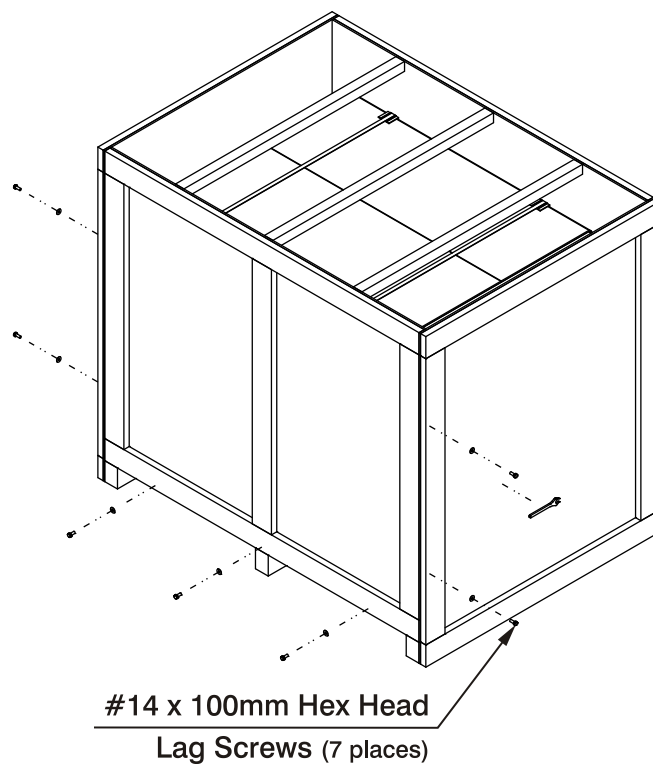

Figure 3.4
Step6: Remove the seven (7) #14 x 100mm hex head lag screws holding the container front to the shipping skid and container sides. See Figure 3.4.